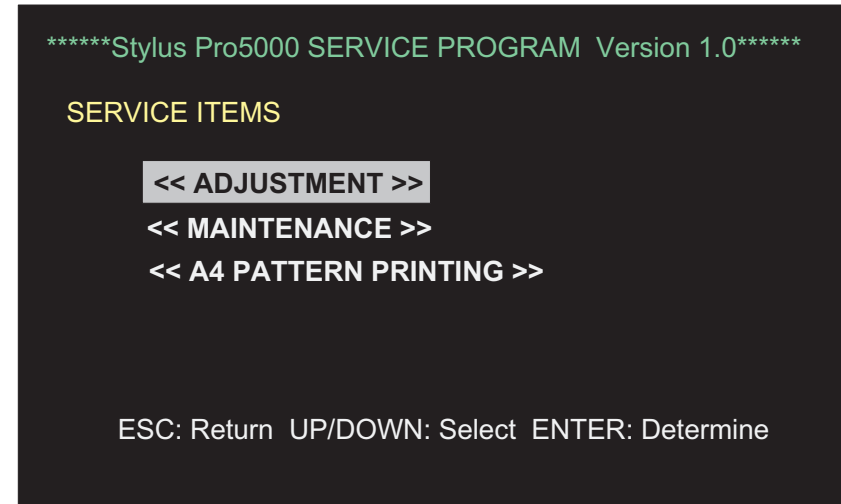

Figure 5-42. Selecting "Adjustment" on the Screen
Step6. Following screen appears. (See Figure5-42)